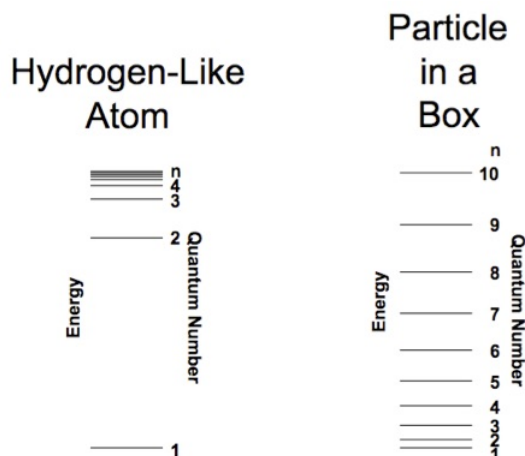

Figure 1. The energy levels of a hydrogen-like atom are shown compared with the energy levels of the particle in a box.
R_H in Equation (4) is known as the Rydberg constant, $R_H = 109,677 \text{ cm}^{-1}$. Energy levels for the hydrogen-like atom are plotted in Figure 1.